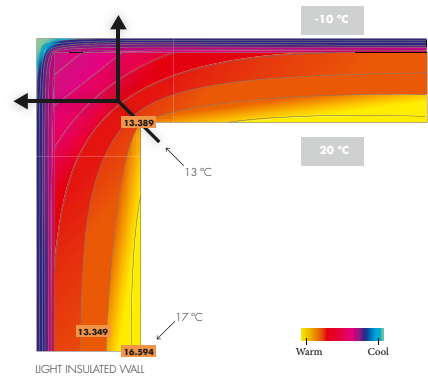

Figure 1
1. Geometric thermal bridges are caused by the irregular shapes in a building's construction – for example, corners. Here, the outside surface of the structure is larger than the inside, which creates opportunities for heat to escape in two directions (see figure 1). This effect can be seen in isotherm diagrams, where the outside temperature is observed as a more intense colour, while the inside is less vivid, indicating that the surface temperature is lower. This situation can also create problems with condensation, ultimately resulting in damp and mould pockets. One solution is to add insulation to the external wall, which will increase the internal wall's surface temperature and, in most cases, prevent local condensation.